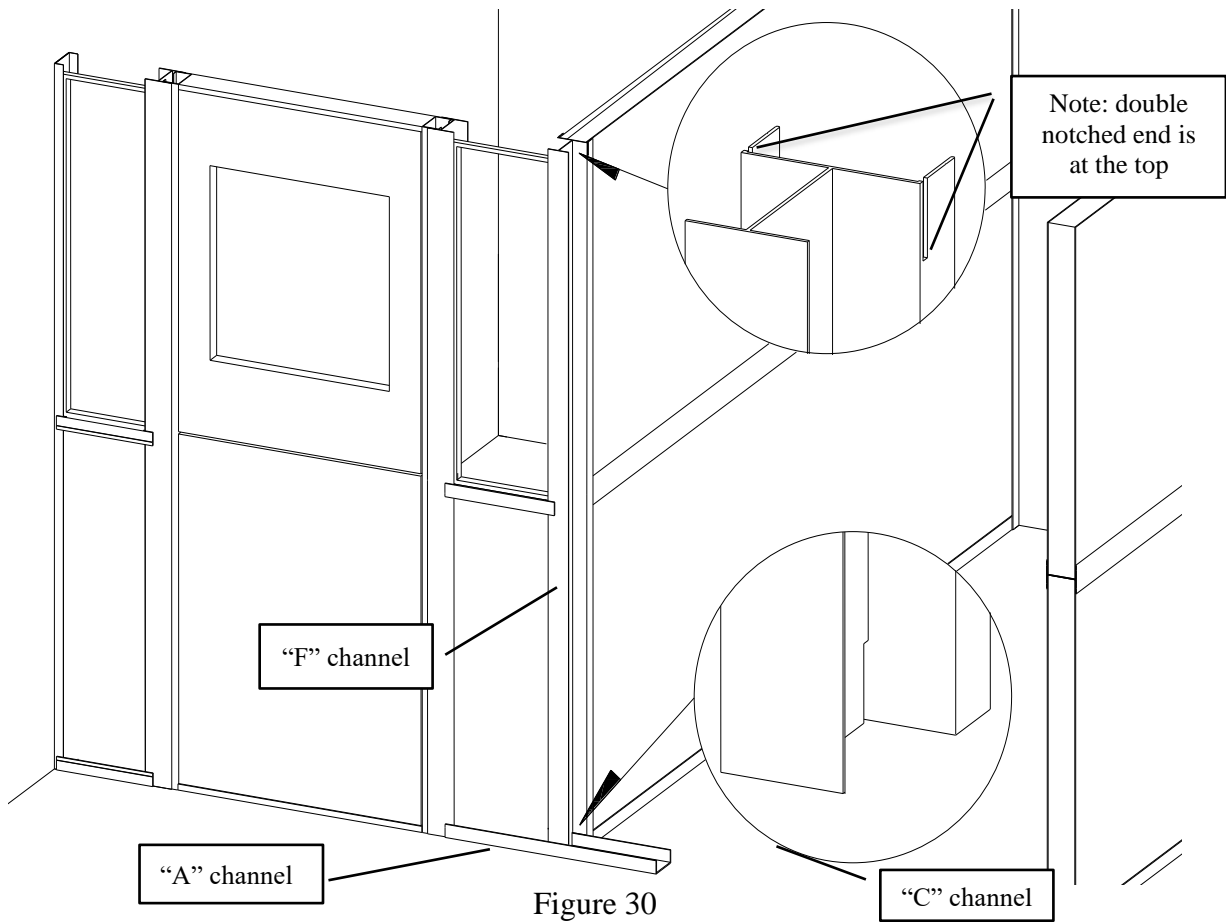

Figure 30
15. Place an “F” channel onto the previously installed “A” channel and also onto the front of the first division wall. This channel will also be fitted onto the previously installed filler panel and window. You may have to angle the “A” channel on the floor outward slightly to help insert this channel. See figure 30.